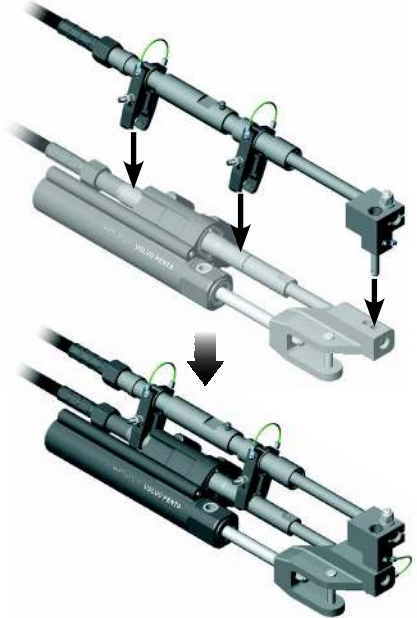

Fig B36 - Fitting connection kit to steering cylinder
- Position the connection kit assembly above the steering cylinder as shown (Fig B36). Hold the two clamp assemblies open so they will fit over the manual steering cable guide tube, at the same time ensure that both clamps remain engaged in the YELLOW color coded slots of the secondary cable guide tube.